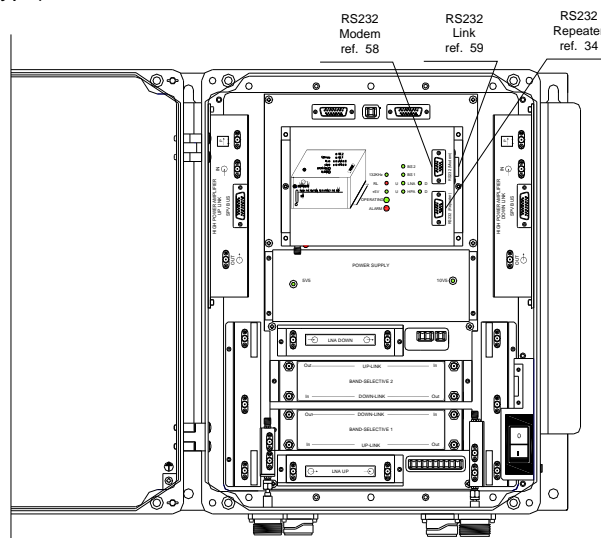

FIGURE 7 – RS232 CONNECTORS
Connect your notebook to the management module (connector RS232, **ref. 34**, FIGURE 7) using the provided serial cable (null-modem type).
- The connector RS232 (ref. 58, FIGURE 7) and the connector RS232 (ref. 59, FIGURE 7) are connected with a cable (only in models equipped with CDMA modem).